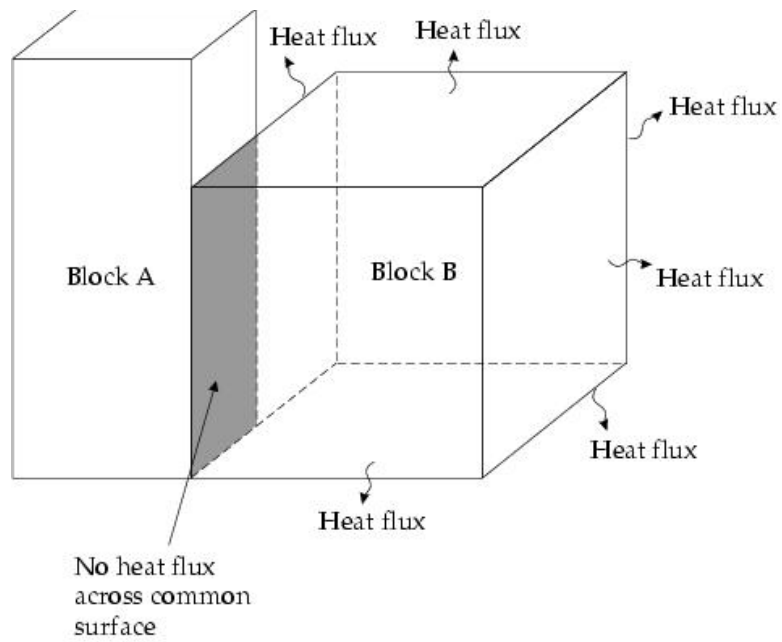

Figure 8.5.2: Heat Flux for Blocks with Coincident Surfaces
- When one (or both) of the blocks is specified as hollow, no heat transfer occurs across the coincident surface. Figure 8.5.2 shows an example configuration where Block A is a non-conducting, solid block and Block B is a hollow block with a specified constant heat flux. Block A insulates the coincident region with respect